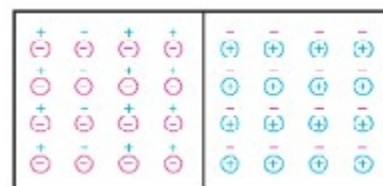

Figure-3 The P-N Junction
- A manufacturer can produce a single crystal with p-type material on one side and n-type on the other side, as shown in Figure-3.
- Because of their repulsion for each other, the free electrons on the n side of Figure-3 tend to diffuse (spread) in all directions.